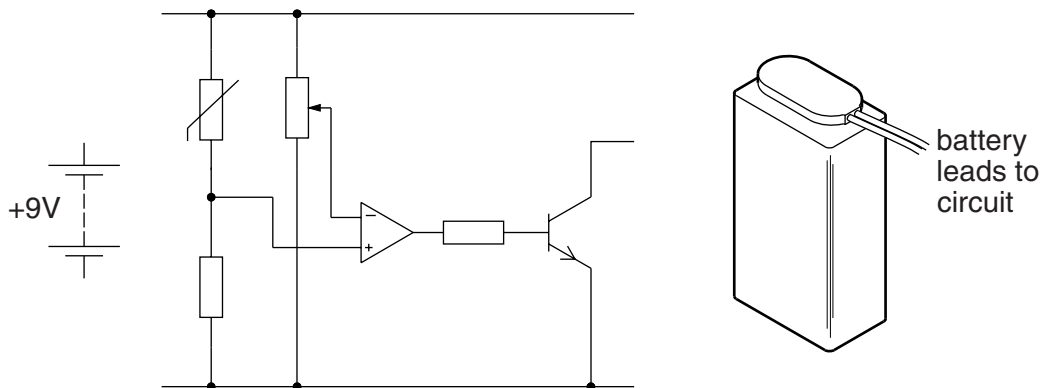

Fig. 12
- (b) The battery will be attached to the product using the battery connector shown in Fig. 12. Using this connector it is possible to touch the connector onto the battery the wrong way around. Complete the battery connections adding a component to the circuit diagram that will overcome this problem.